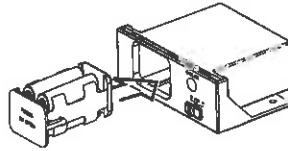

Figure 5
7. In order to prevent the Remote Receiver (fireplace installation only) from overheating, put a heat shield (option item) above the Remote Receiver. See Figure 5.